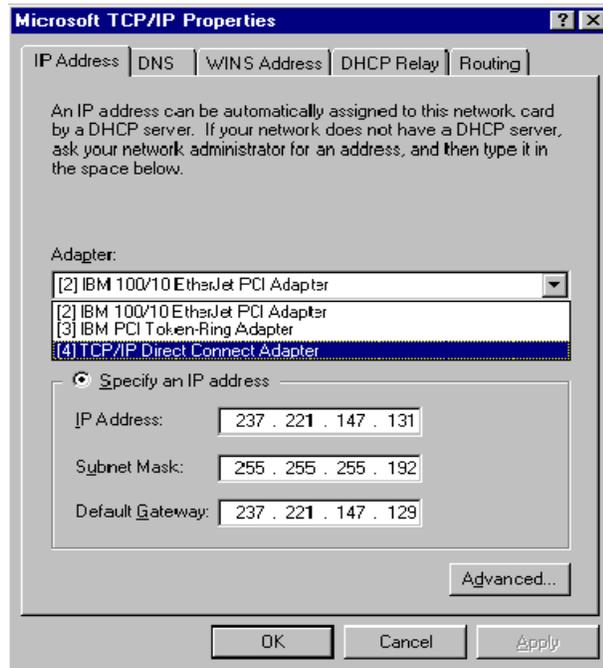

Figure 6-12. Select TCP/IP Direct Connect
18. Use your mouse to select the TCP/IP Direct Connect Adapter from the list of Adapters bound to TCP/IP (Figure 6-12).